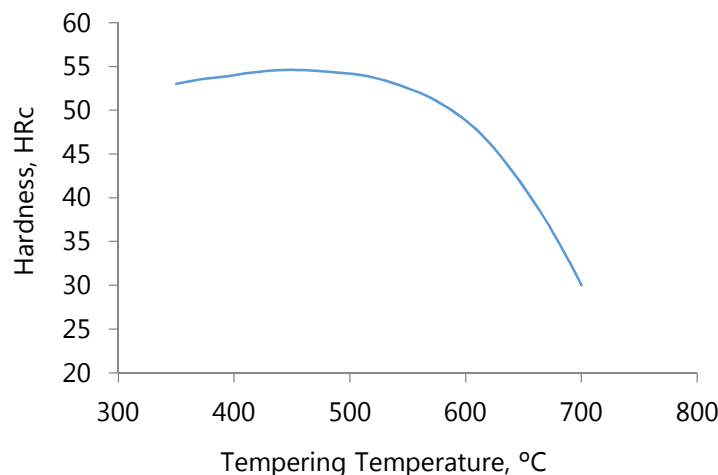

Figure 1. Tempering graph. Austenizing at 1020°C
- Perform 2-3 tempering cycles at the corresponding temperature for the desired hardness (see figure 1):